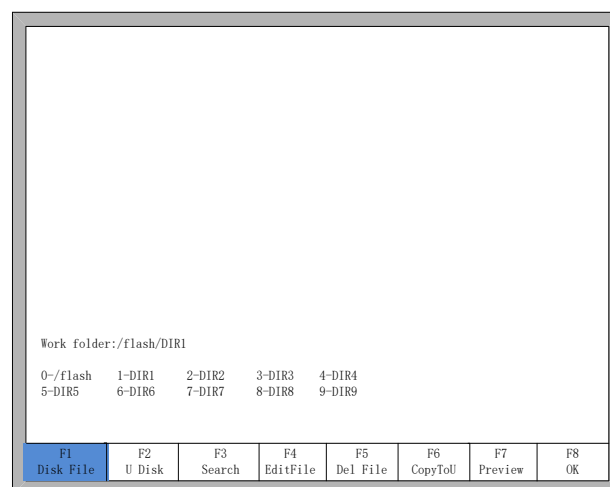

Fig 6.6 Folder 1
- 0-/flash 1-DIR1 2-DIR2 3-DIR3 4-DIR4 5-DIR5 6-DIR6 7-DIR7 8-DIR8 9-DIR9 。These 10 symbols interpret 10 folder path. The number before '-' is the short key, press the corresponding number, switch current work folder into corresponding folder. For example, press 【1】 , it will show as the figure 6.6.